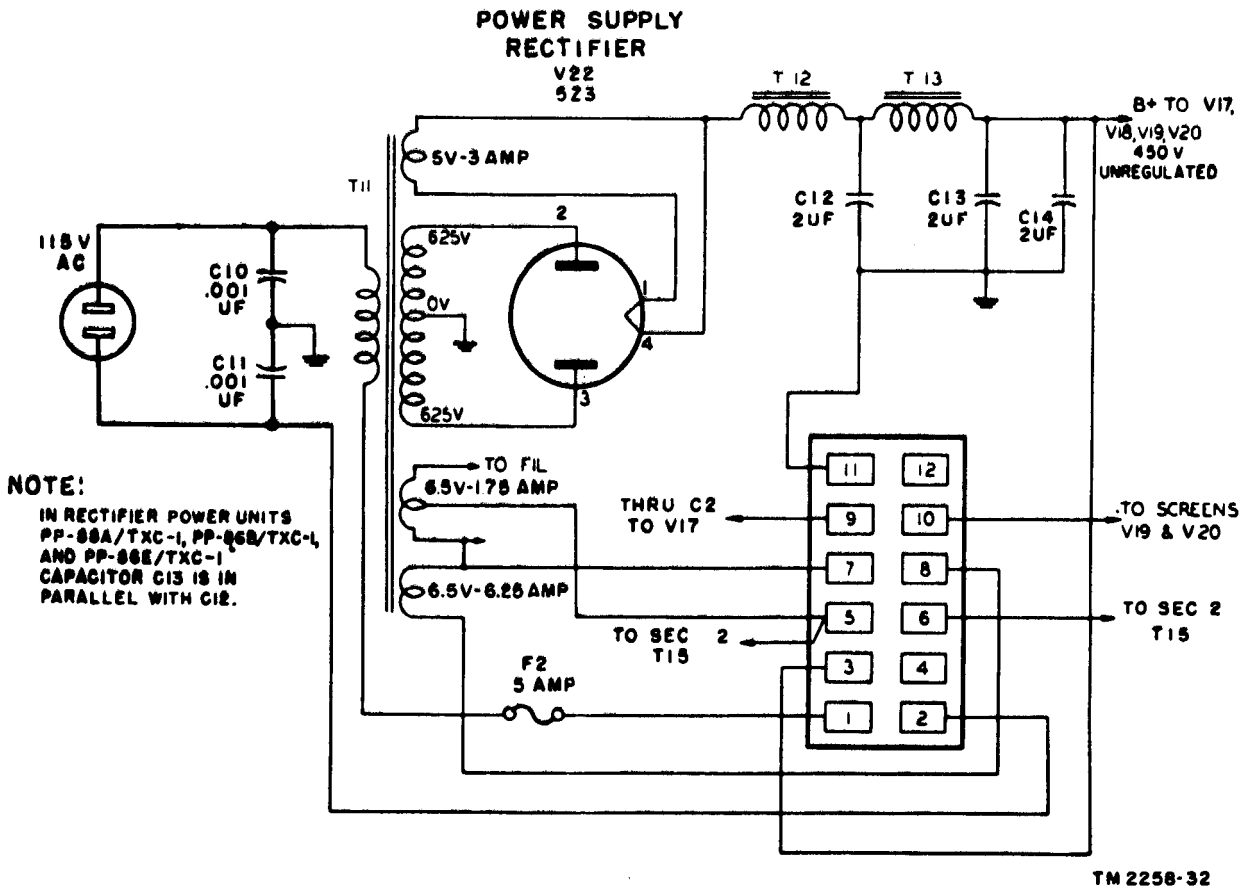

Figure 67. Rectifier power power supply, part of Rectifier power unit PP-86(*)/TxC-1.
81. Power Supply Rectifier (V22) (fig. 67)